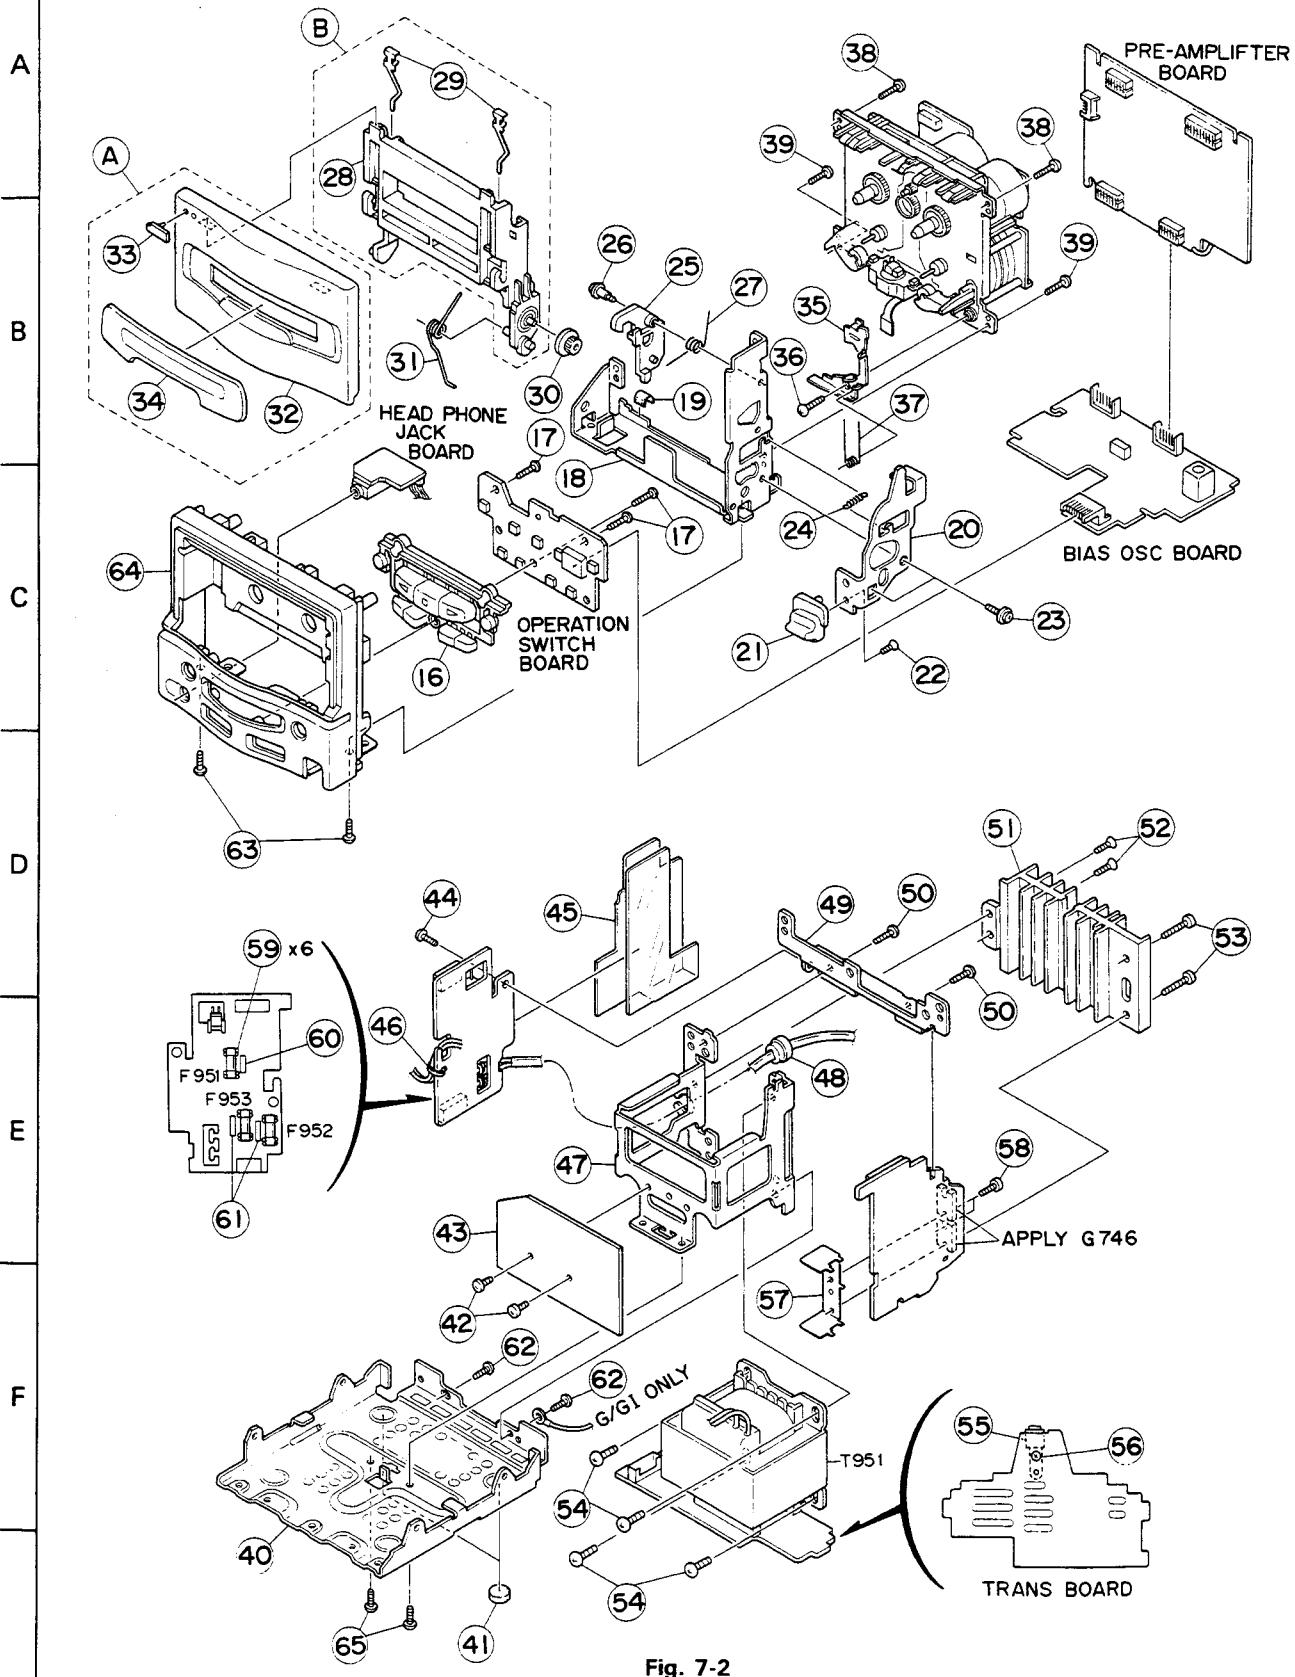

Fig. 7-2
• Cassette Mechanism (Fig. 7-2, 3)
2. Remove the four screws (38) x 2 and (39) x 2 retaining the cassette mechanism from the front panel ass'y.
• Headphone Jack P.C. Board (Fig. 7-2, 3)
(Fig. 7-2, 4)
1. Remove the two screws ⑯ retaining the cassette holder bracket from the lower side of the front panel.
6. Remove the three screws ⑰ retaining the operation key switch P.C. board, and draw out the P.C. board.
- Power Supply Transformer (Fig. 7-2, 5~7)
1. Remove the four screws (65) x 2 and (62) x 2 retaining the bottom cover and power supply unit.
2. Remove the four screws (52) x 2 and (53) x 2 retaining the heat sink from the transformer bracket and dismount the power amplifier P.C. board.
3. Remove the one screw (44) retaining the fuse P.C. board from the transformer bracket.
8. Remove the four screws (54) retaining the power supply transformer from the transformer bracket.